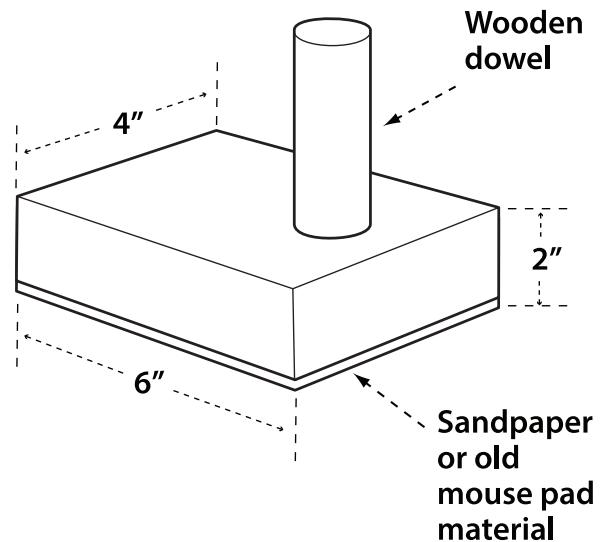

FIGURE 30
3. Glue a piece of rough or soft material such as sandpaper or rubber to the bottom of the block to grip the workpiece (old mouse pads work well). (Fig. 30).